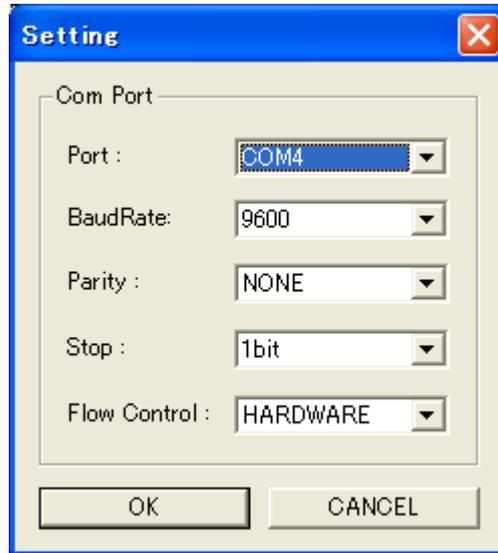

Fig. 3-1b Setting window
Following window is displayed when [Setting] is clicked. Select the Port No. [COMx] in [Port] box. Also confirm the setting of [Baud Rate], [Parity], [Stop], and [Flow Control] is set as fig. 3-1b Setting window. Go to next step when you confirm they are set correctly. Carry out below outlined procedure (1) to (5), when the settings of these parameters are different from fig. 3-1b.